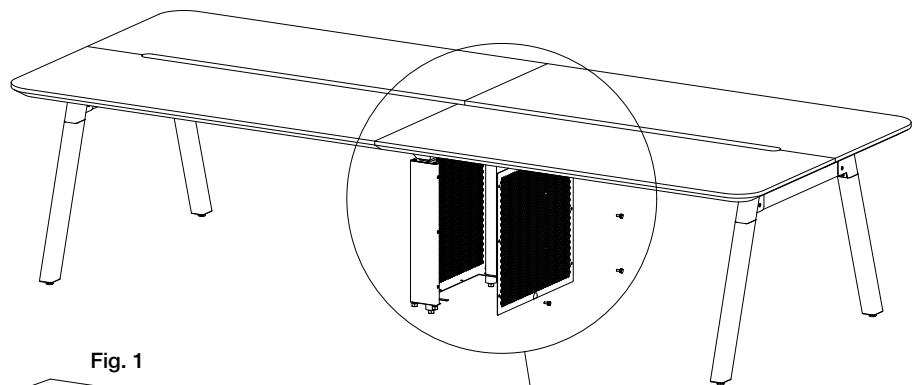

Fig. 1
1. Align the weldment cable tower (B) to the legs of the table such that the legs fit in the slot provided on the weldment. (Fig. 1)
(Fig. 1)